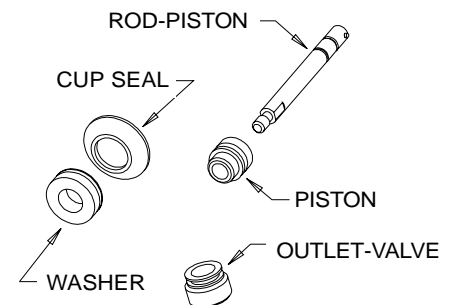

Figure 6-6
- b. The shaft cup seal, washer, outlet valve, piston, and rod as shown in figure 6-6.